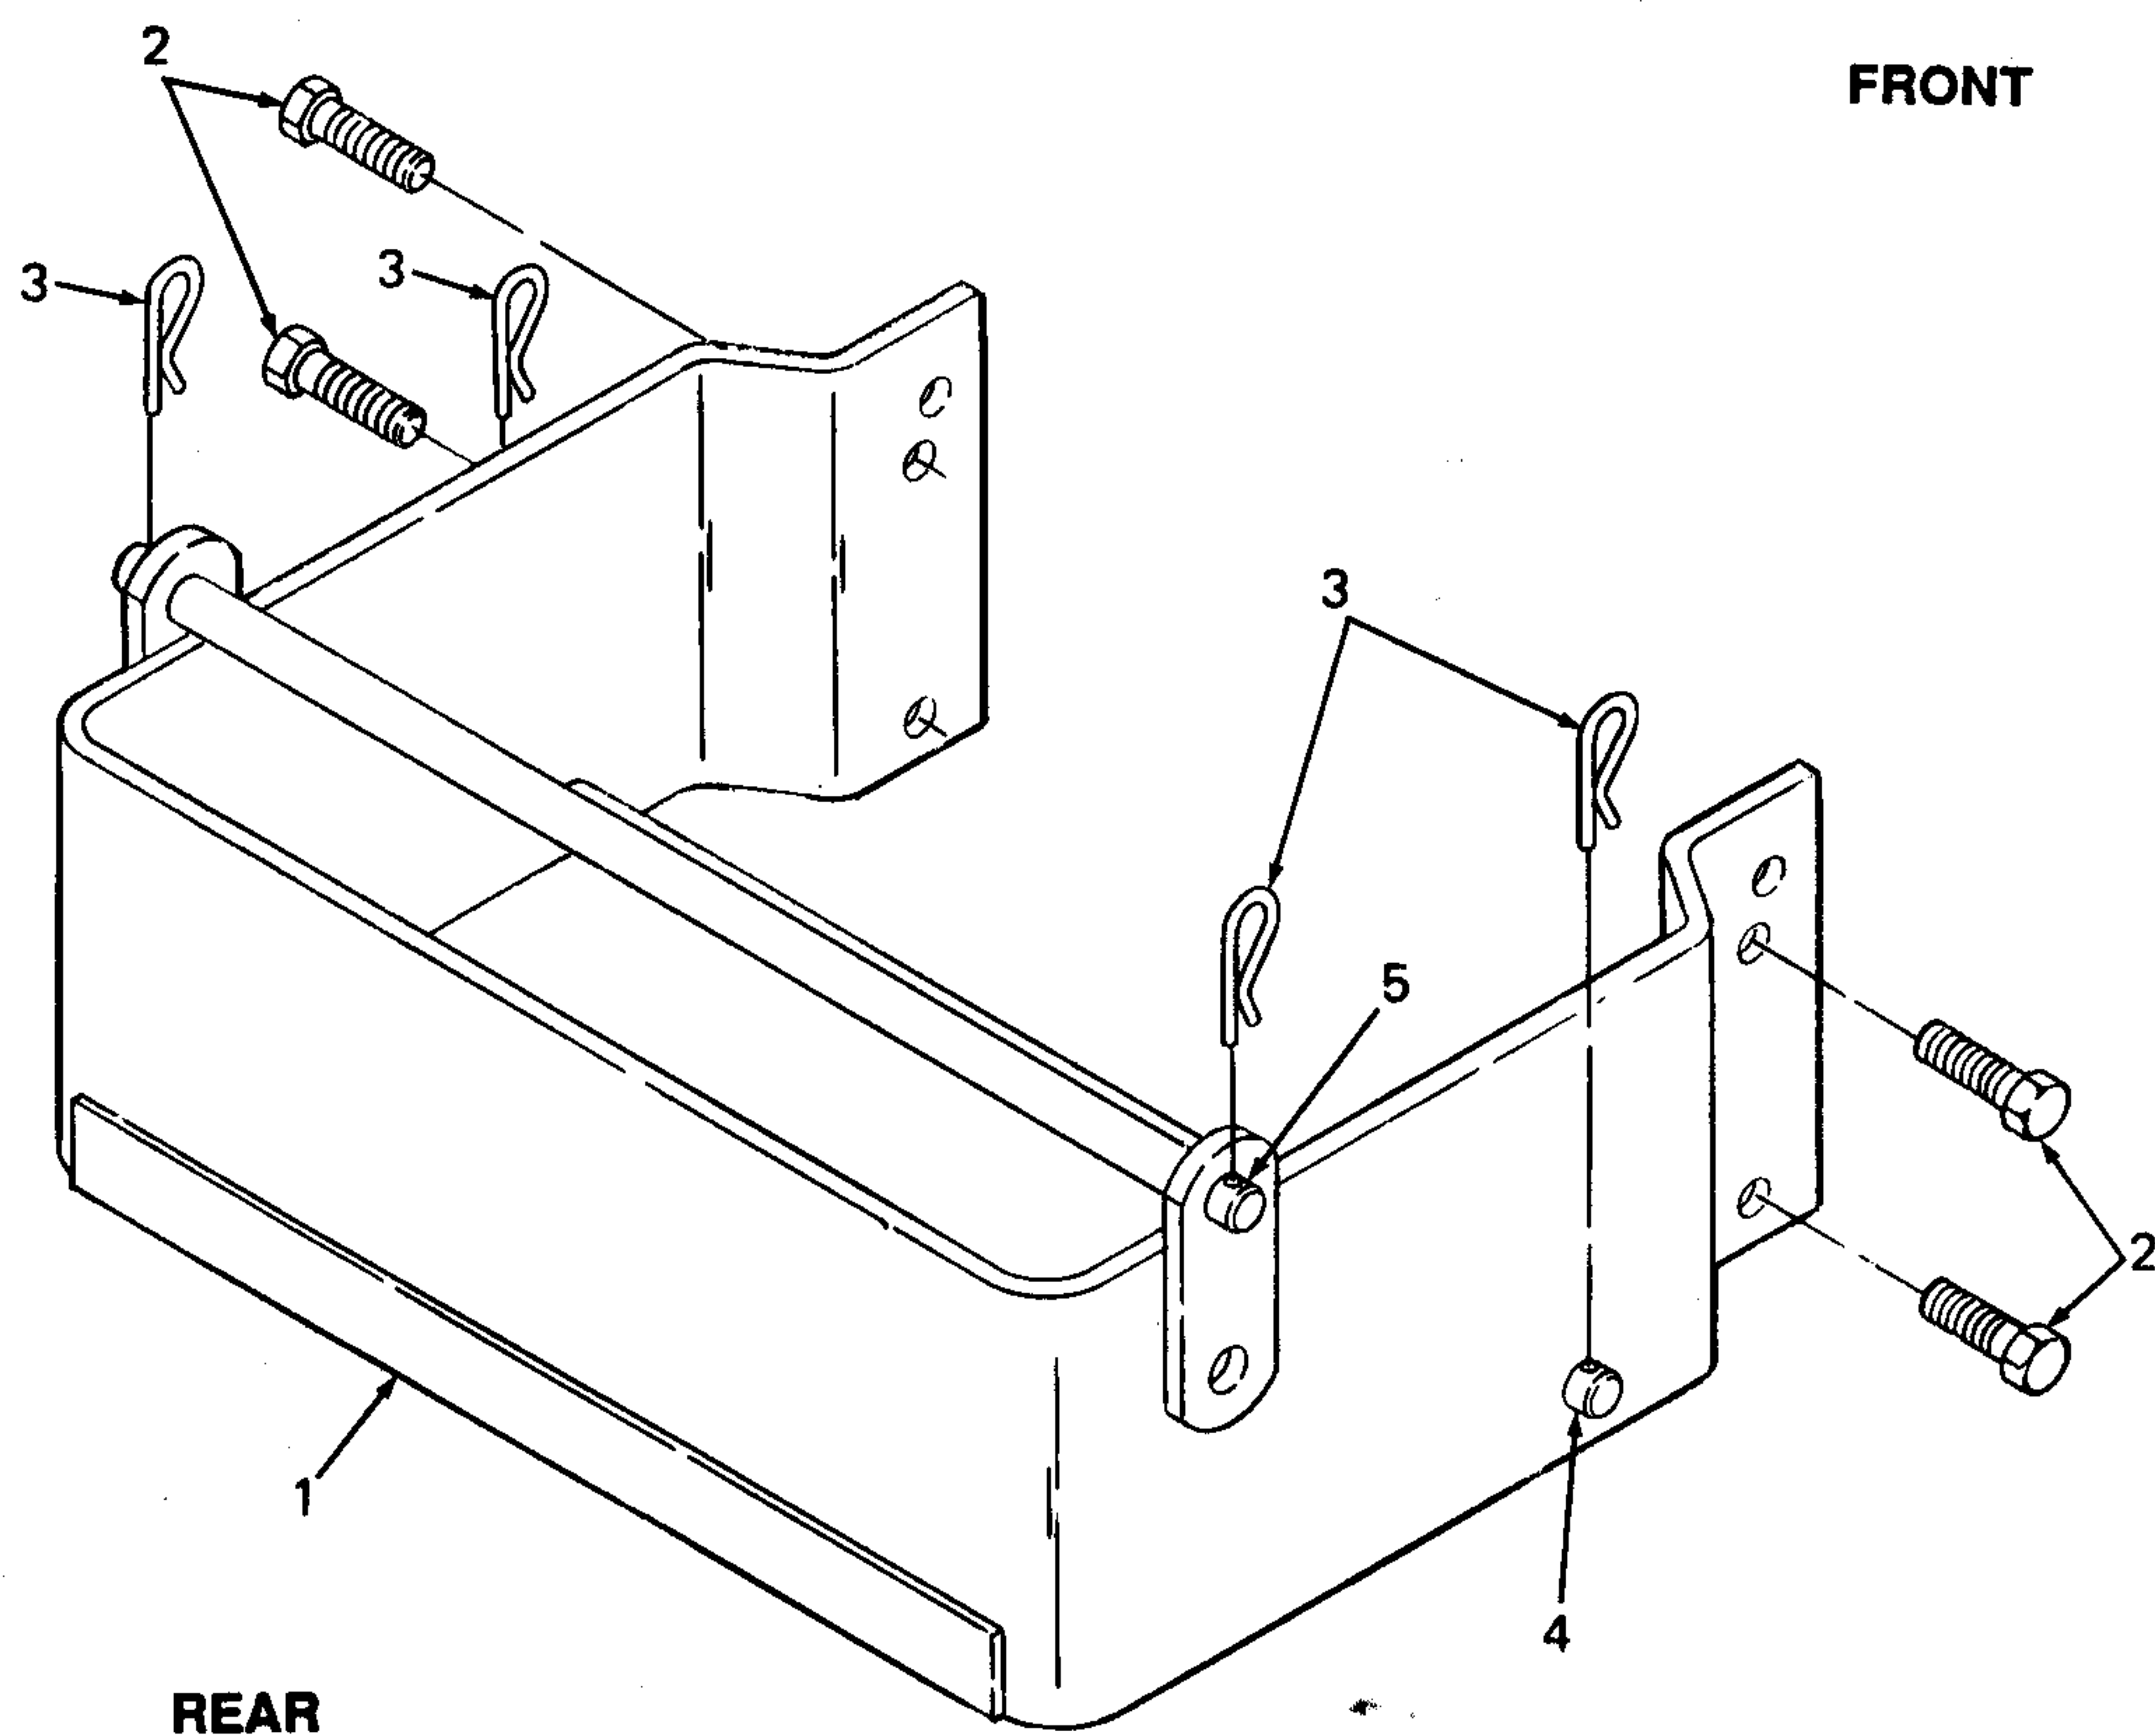

Figure 1
Before beginning installation, refer to Figure 1 to familiarize yourself with the parts and nomenclature of the Rear Weight Bracket Kit.
1. Remove bracket support rod and weight support rod if assembled to rear weight bracket. See Figure 1.